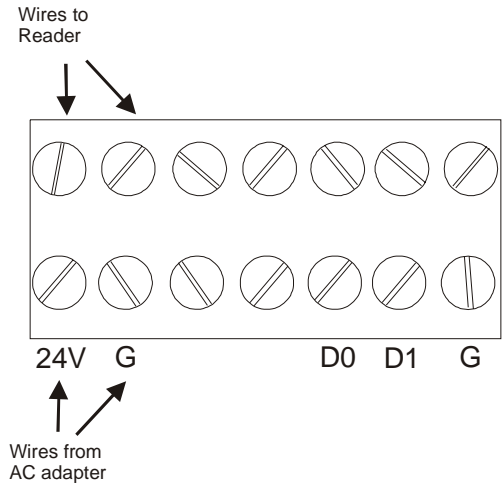

Figure 13 Power terminals for the Reader
- Step 5:** Insert the positive 24V wire into the terminal labeled **24V** (Figure 13).